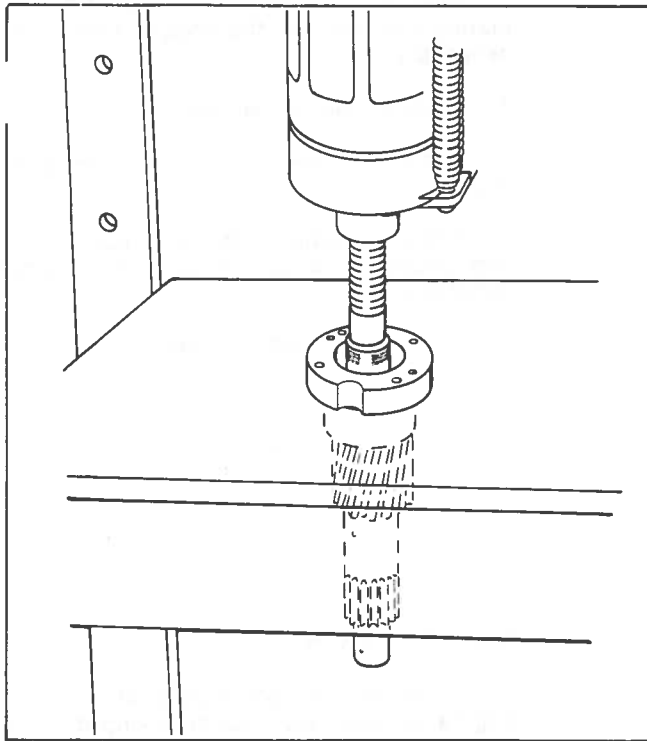

Fig. 28. Extracting Pinion Shaft
3. If pinion clears cover bore: extract pinion from bearing retainer using suitable press (see step 2, parts a, b, and c). See Figure 28.